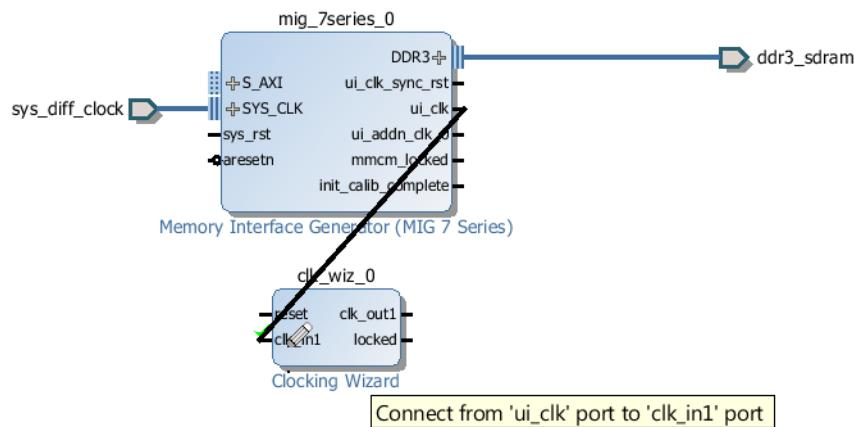

Figure 5-10: Connect ui_clk to clk_in1
1. Connect the `ui_clk` or `ui_addn_clk_0` output of the Memory IP, as well as any other clocks generated, to the `clk_in1` input of the Clocking wizard, as shown in Figure 5-10.